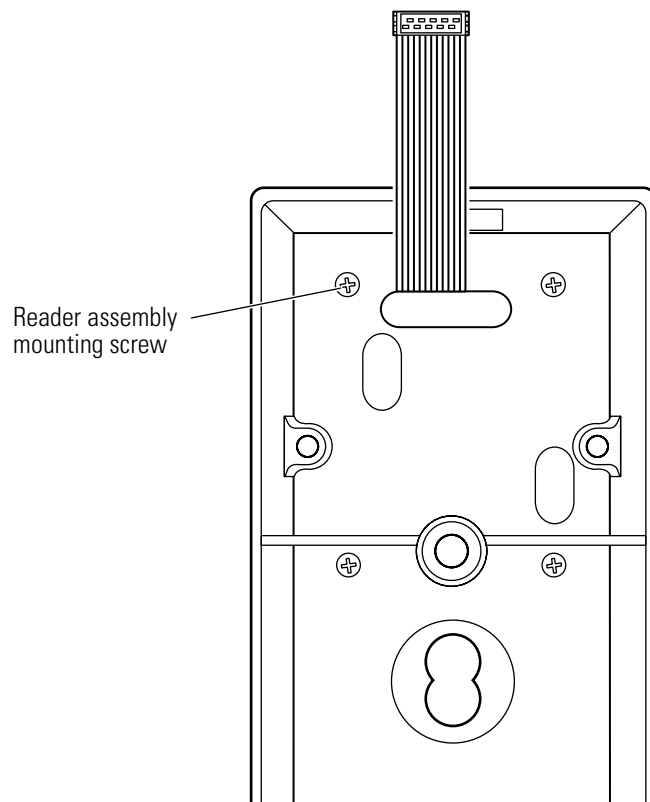

Figure 9.20 Removing and reinstalling the screws for the dual validation reader assembly
2. Remove and save the four reader assembly mounting screws. See Figure 9.20.
2. Position the reader assembly on the reader gasket and install the four reader assembly mounting screws. See Figure 9.20.